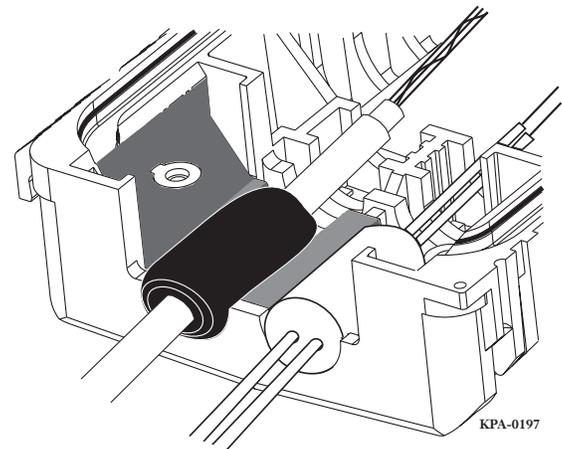

Figure 11 — Insert Cable into Terminal
Insert the taped cable(s) into the base of the terminal (Figure 11).
**Step 2** Insert the multihole grommet into the base of the terminal (Figure 11).